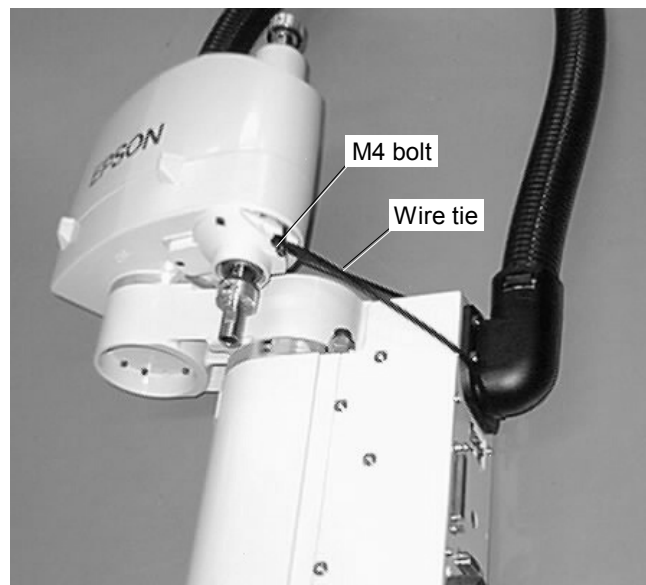

Figure 5. Cut the wire tie
- (4) Gently push Arm #1 in the plus direction (counterclockwise direction) until it touches the previous bolt.
- (5) Gently push Arm #2 in the plus direction (counterclockwise direction) until it touches the mechanical stop.
- (6) Immobilize the arm by fastening an M4 screw to the bottom of the end of Arm #2 and then tying down the arm as shown in Figure 5.
- (7) To prevent a manipulator from falling, hold Arm #1 with your hand and remove the manipulator from the base table.